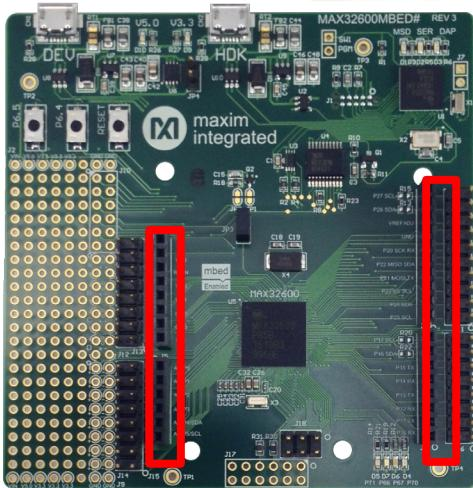

Figure 6. Inserting pins on the MAXREFDES155# shield into the MAX32600MBED# base board.
| Figure 6. Inserting pins on the MAXREFDES155# shield into the MAX32600MBED# base board..... | 7 |
2. Insert the downward facing pins on the MAXREFDES155# assembly into the MAX32600MBED# as shown (**Figure 6**).